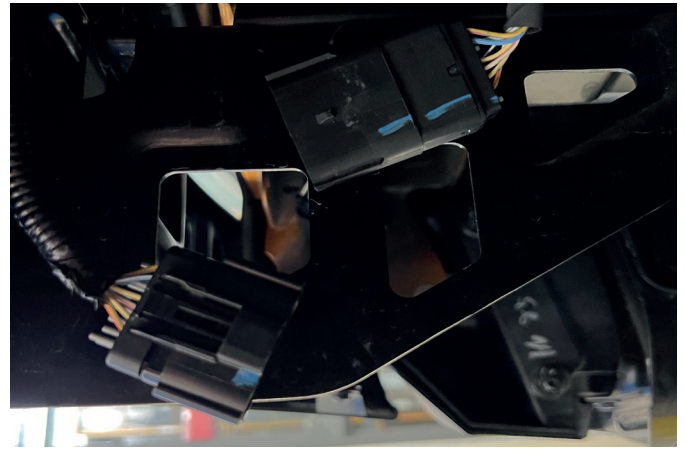

Fig. 2
2. Disconnect OE bumper connector, as shown in fig. 2.